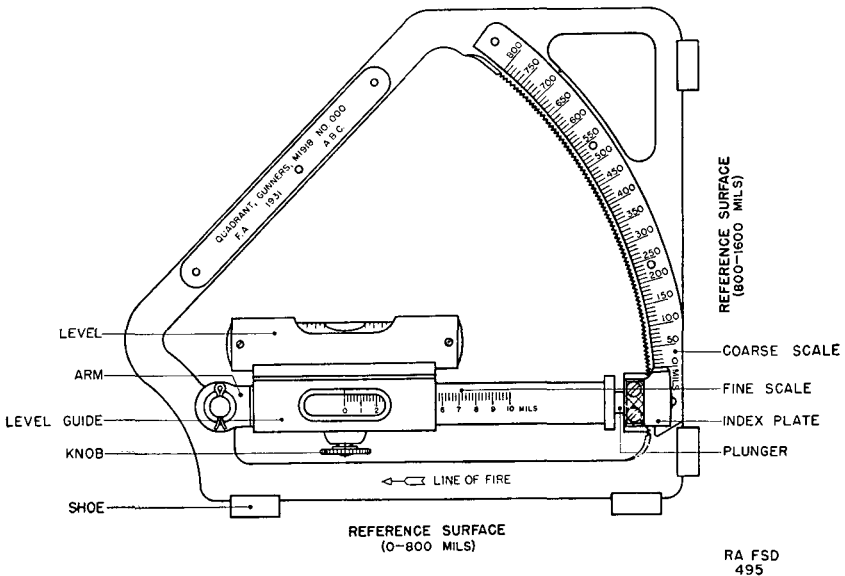

FIGURE 43.—Gunner's quadrant, M1918.
a. *M1918.*—(1) *Description.*—This quadrant (fig. 43) includes a sector-shaped frame to which is pivoted an arm carrying a level. Notches on the frame engaging with a plunger in the arm permit rapid setting of the arm in 10-mil steps to the desired angle as indicated on the coarse scale. The arm is slightly curved and the level guide is arranged to be positioned along the arm to provide a fine indication supplementing that on the coarse scale. The frame has